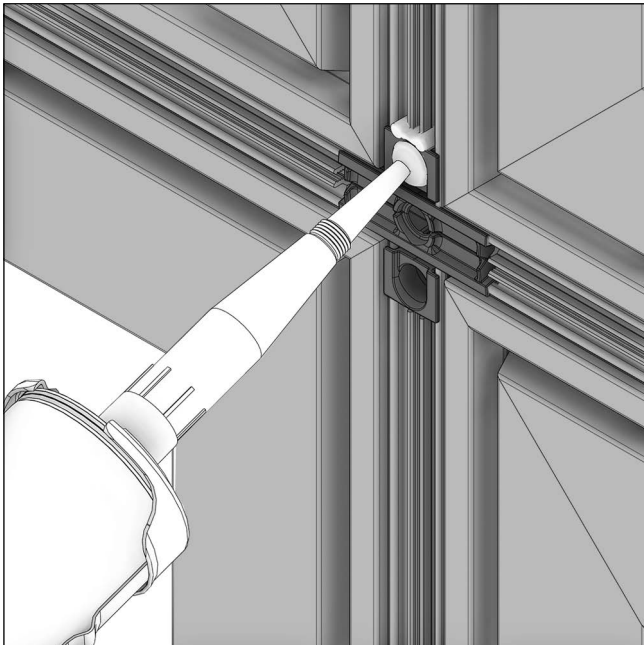
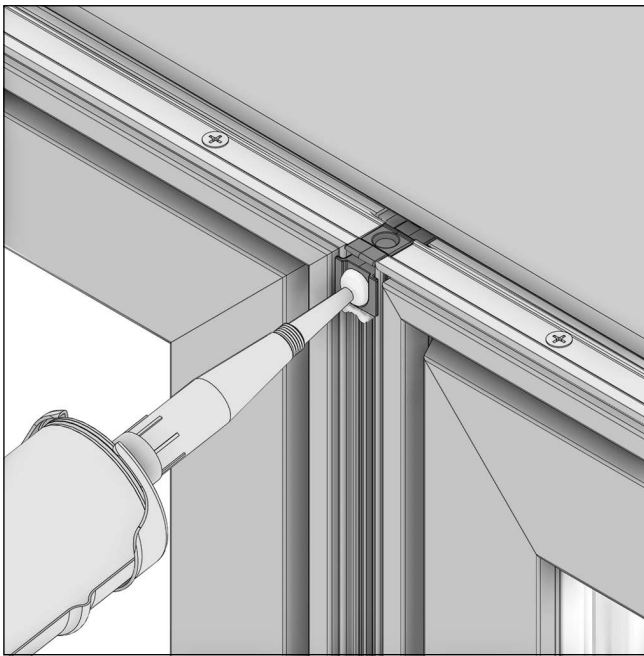

Figure 82 Multi-wide/multi-high assemblies
Figure 85 Multi-wide assemblies
17. Inject plugs until sealant is seen at locations shown in Figure 82 - Figure 85.